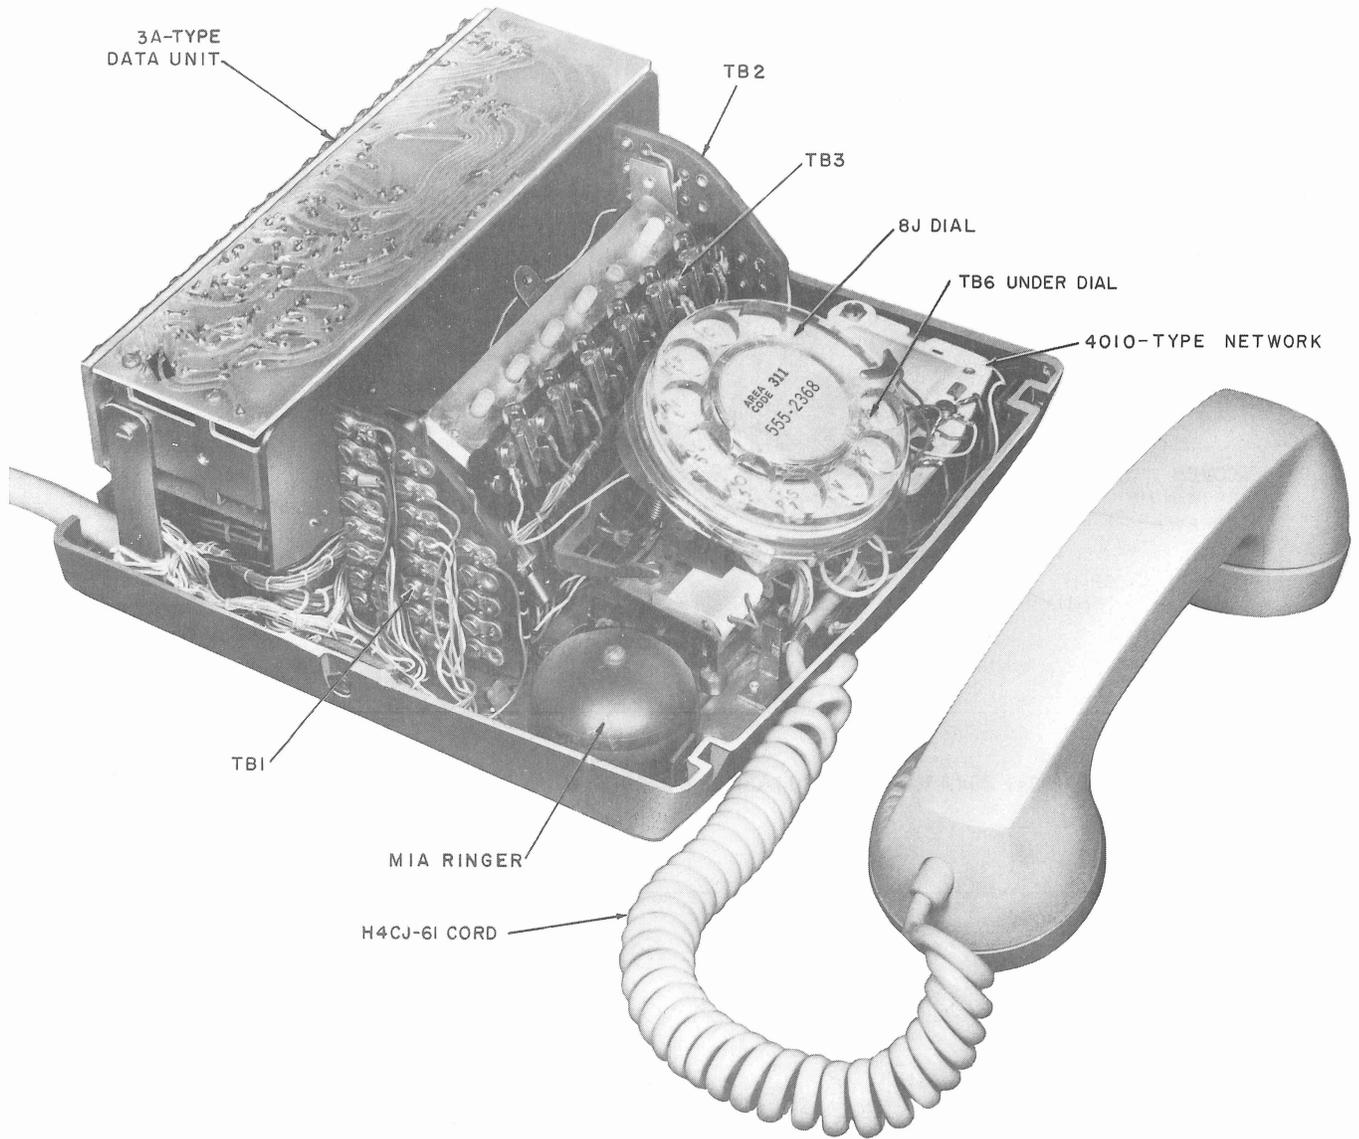

Fig. 5—Data Auxiliary Set 804A1, 804A2, 804A5, or 804A6 Prior to Series 6—Front View With Cover Removed
5.02 Options for DASs prior to DAS 804A6, A8, series 6 are installed by making the necessary connections listed in Table C. Terminal block locations are shown in Fig. 5 and 6.